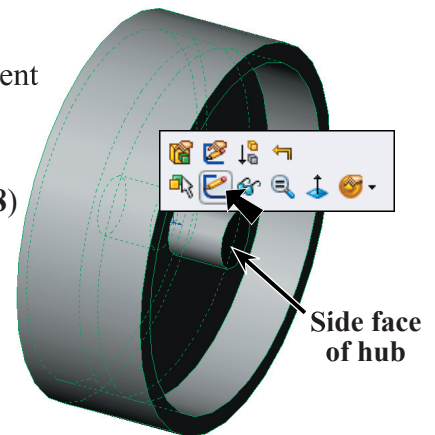

Fig. 7
Step 1. Click the **side face of hub** and click **Sketch**  on the Content menu, **Fig. 7**.